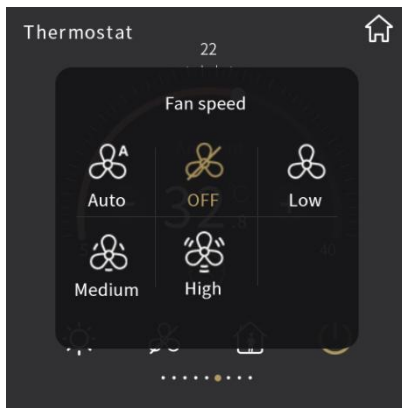

Fig.2.3.4
⑧ **Enter the fan speed setting by touching this area, and will pop up a sub-window shown as Fig.2.3.4;**